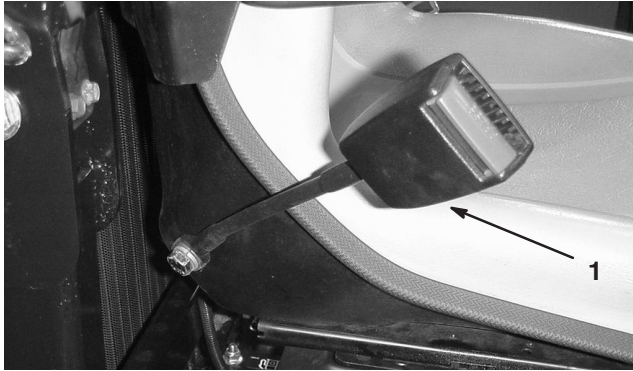

Figure 5
1. Install each end of the seat belt in the holes in the back of the seat with (2) 7/16 x 20 – 1” lg. capscrews, 7/16 flatwashers and 7/16 lockwashers (Fig. 5). Tighten securely. The latch side of the belt is to be mounted to the left side of the seat.